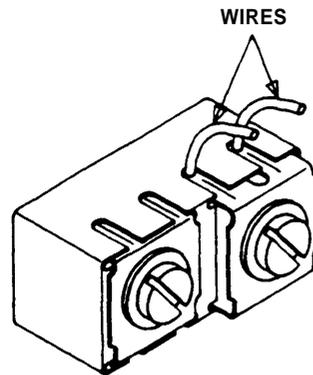

Figure 3
7. Take one of the cables and insert each wire into one slot of the terminal. Bend each wire up to prevent it from slipping out (see Figure 3).